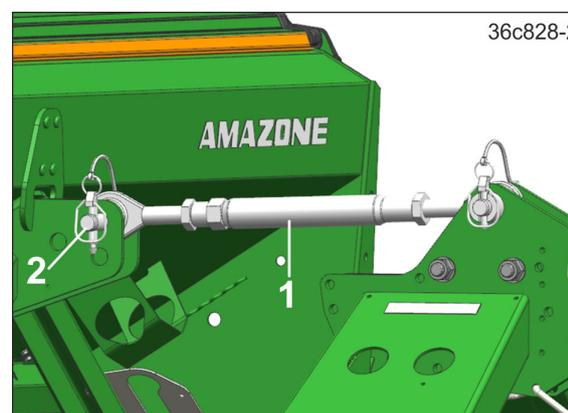

Fig. 96
6. Peg the top link (Fig. 96/1) with 2 top link pins (Fig. 96/2) onto the soil tillage implement and the pack top seed drill.